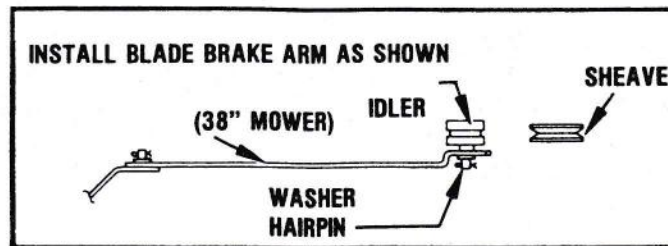

FIGURE 8
16. Install a washer and hair pin into location. See Figure 8.